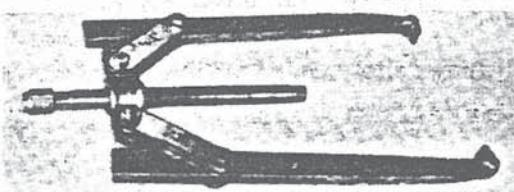

Fig. 8-11
k) The bearings will be taken away from the shaft by means of a special tool (Puller). (Fig. 8-11)